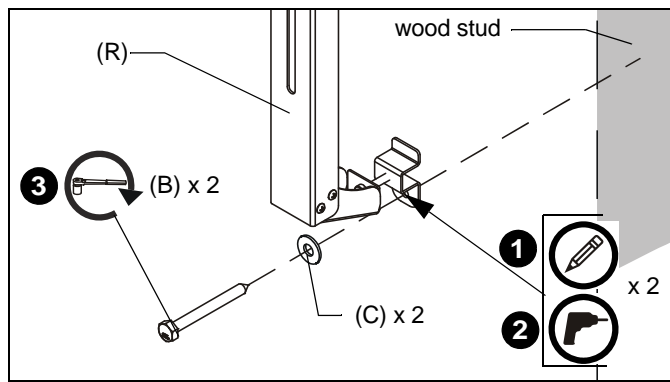

Figure 11
1. Mark the wall over stud through the fixed wall leg (R) on each upright assembly. (See Figure 11)
2. Drill one 1/8" pilot hole in each stud. (See Figure 11)
3. Use two 1/4-20 x 2-1/2" lag bolts (B) and two 1/4" flat washers (C) to attach both fixed wall legs (R) to wall. (See Figure 11)